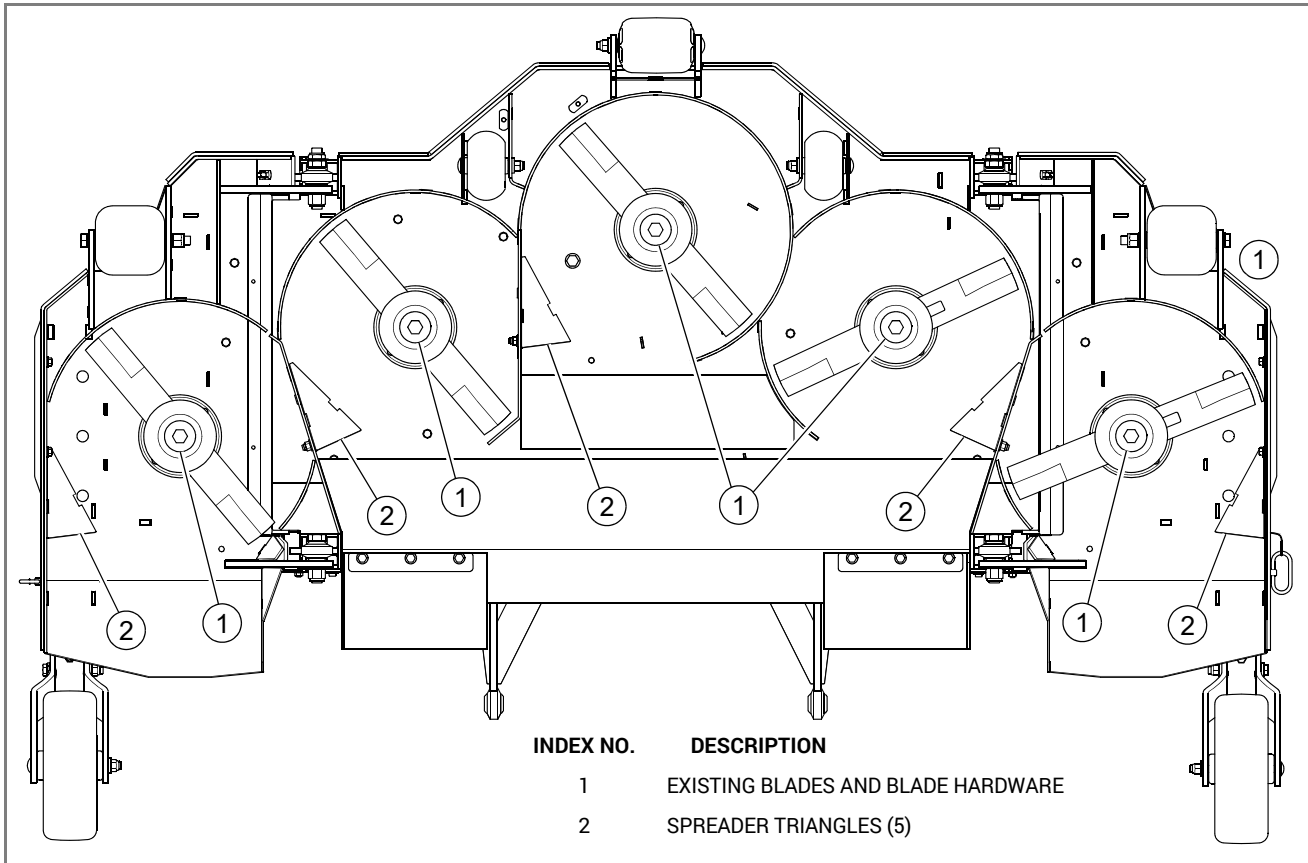

FIG. 1
6. Remove the existing blades. Keep the hardware. Keep the blades to use if the mulch kit is removed from the decks. FIG. 1
7. Remove the spreader triangles. Keep the spreader triangles and hardware to install if the mulch kit is removed from the decks. FIG. 1